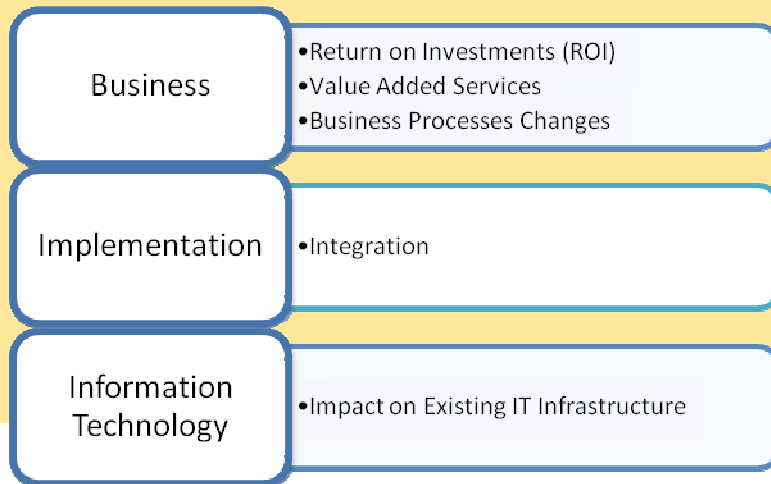

Figure 11: Pre-Implementation
The SMARTCONTAINER® was designed with simplicity of operation in mind. Therefore, its implementation is particularly straightforward and requires very little modification to processes already in place. However, similar to other auto-id and RFID technological implementation, there exist certain pertinent choices that must be made before an implementation can be successful. Figure 11 shows three simple yet important considerations to take into account during the pre-implementation process. The three groups that are of interest are the business aspect, implementation situation and the criticality on the existing information technology (IT) infrastructure.